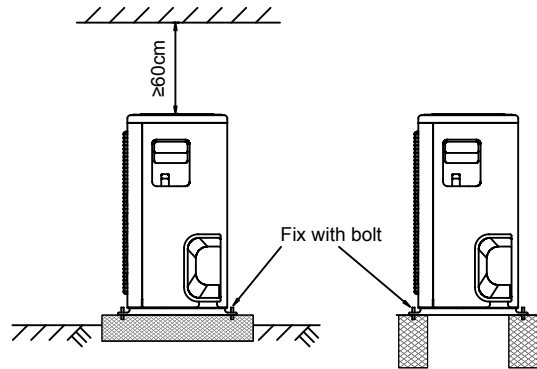

Fig.6-15
- Fasten the feet of this unit with bolts firmly to prevent it from collapsing in case of earthquake or strong wind. (Refer to Fig.6-15)